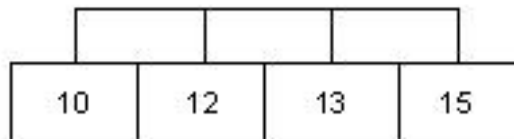

Figure 3 – Configuration 3
1.9 Perform a continuity check at the PAM side (top) of the terminal rail, to verify the following configuration (Figure 3):